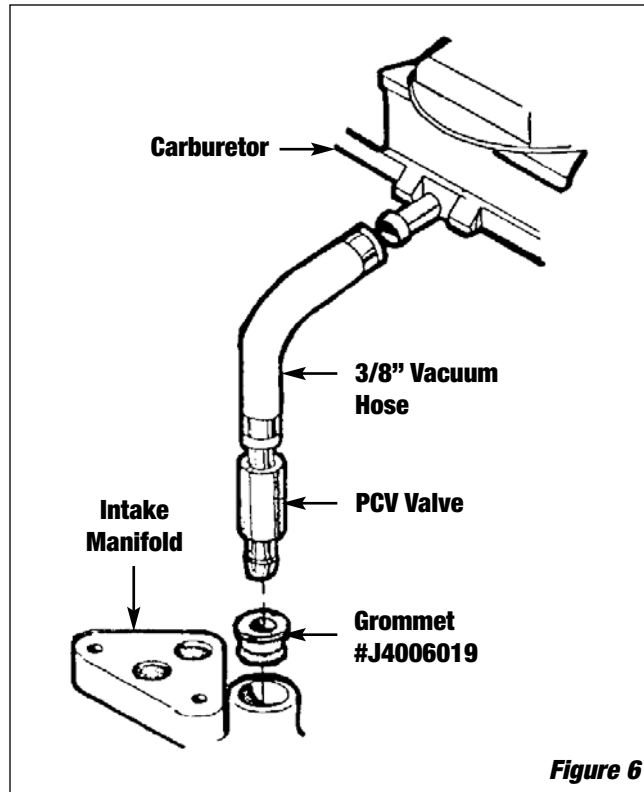

Figure 6
- **PCV VALVE:** Some engines use a PCV valve that is clamped to a hose between the carburetor and manifold. The stock AMC manifold has a 3/8" NPT pipe port at the manifold rather than a hole to accept a rubber grommet which the Edelbrock manifold uses. To re-install the PCV valve to our manifold, you may purchase a grommet from your local AMC/Chrysler dealer, (#J4006019) and 10" of 3/8" vacuum hose (**See Figure 6**).